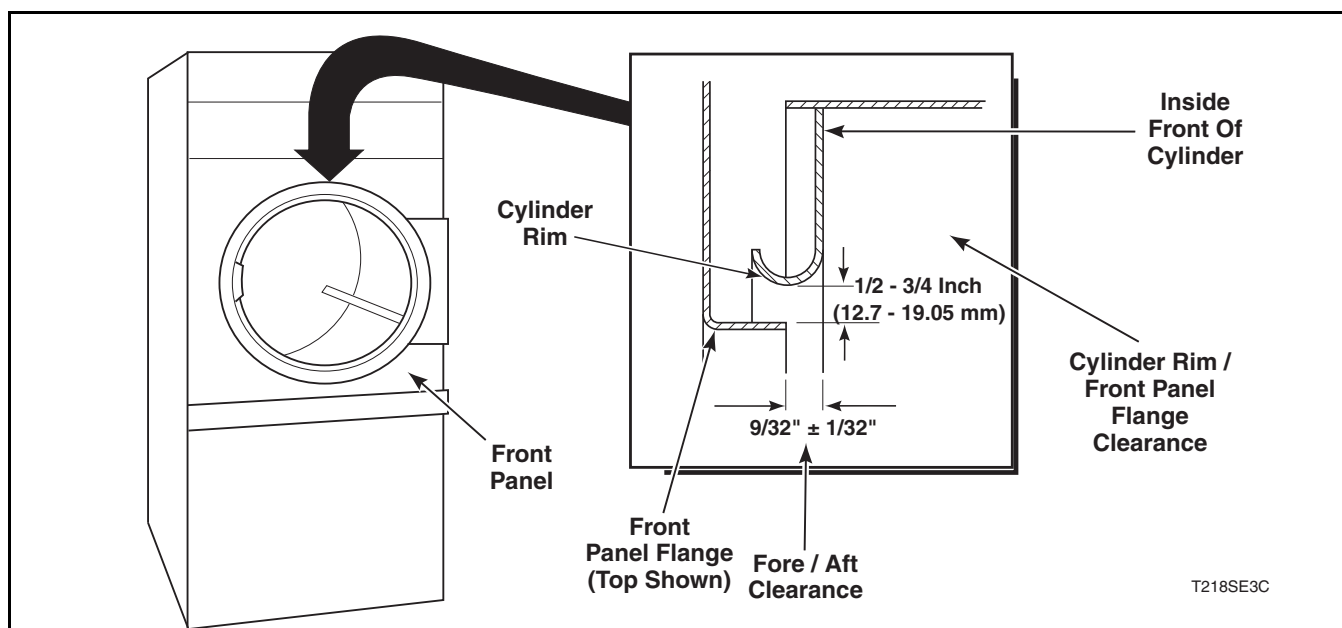

Figure 14
- Open loading door and check the gap between the center of the front panel top flange and the cylinder rim. Proper adjustment is when the gap is 1/2 - 3/4 inch (12.7 - 19.05 mm). Refer to *Figure 14*.